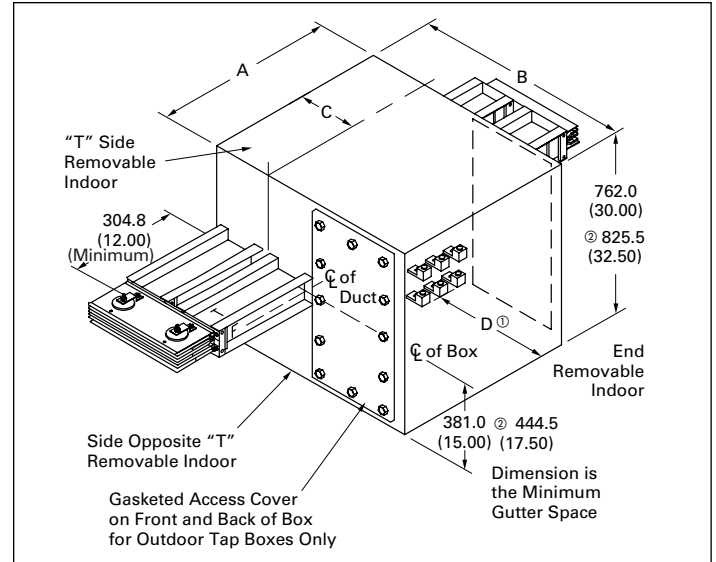

Figure 27. Center cable tap box
Center cable tap box (Figure 27)
- ① For compression lugs, factory provides provisions only.
- ② All dimensions shown in **Figure 27** remain constant regardless of system wiring configuration.
- ③ Denotes quantity of terminals per ground bus.
- ④ Denotes quantity of terminals per phase and 100% neutral bus.
- ⑤ Denotes quantity of terminals per 200% neutral bus option.